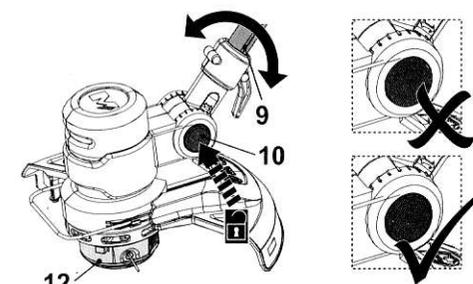

Fig. 9
1. Press the unlock button (10) and hold it in position.
2. Move the lower pole (9) slightly up or downward (Fig. 9).
3. Release the unlock button (10) and keep moving the lower pole (9) until it locks in place.